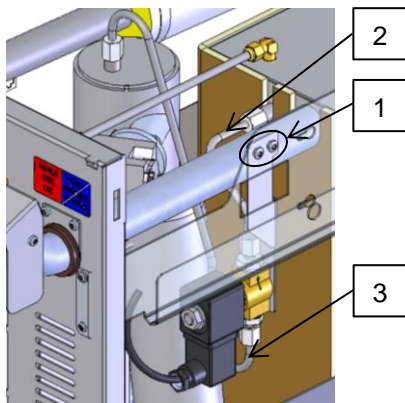

Fig. 4: Attach mounting bracket with solenoid valve (YV 1)
- Attach mounting bracket with solenoid valve to the upper stay with 2x screws (Label 1 → Fig. 4).
- Attach new pipe elbow (Label 2 → Fig. 4) and tighten 2x screw connections.
- Attach new pipe elbow (Label 3 → Fig. 4) and tighten 2x screw connections.